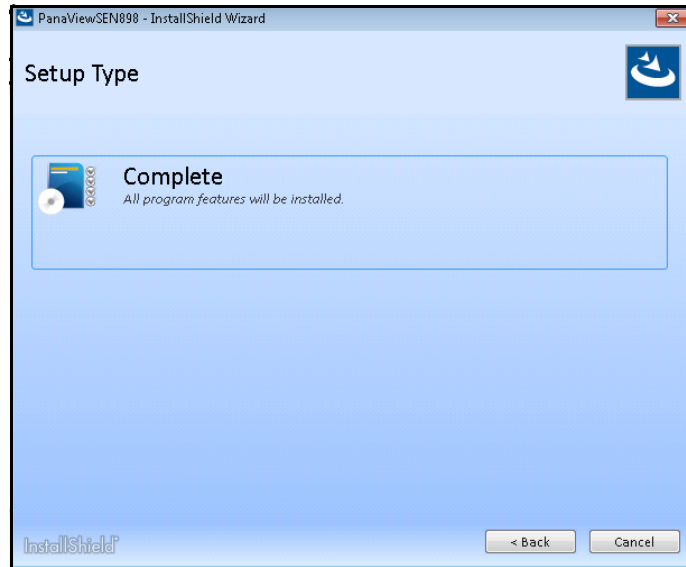
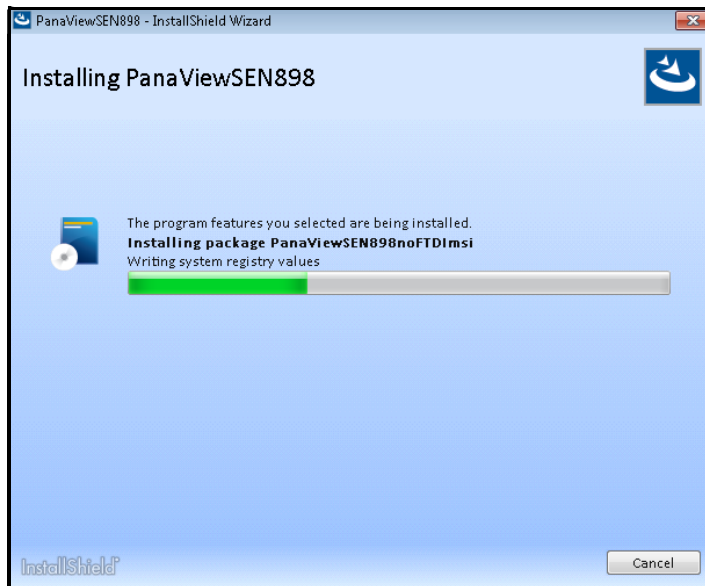

Figure 5: Setup Type Screen
Figure 6: Installing Panaview Screen
4. Choose [Complete] to install all program features (see *Figure 5* below). The screen shown in *Figure 6* appears and confirms the start of Panaview Installation. Refer to “The [Back] and [Cancel] Buttons” on page 5 to know the specific function of them.